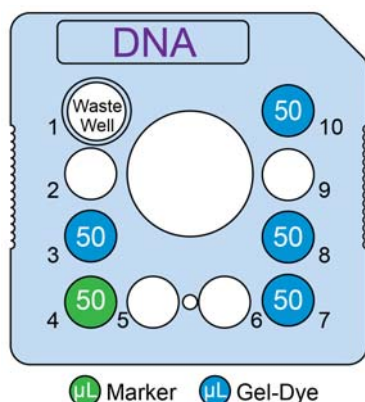
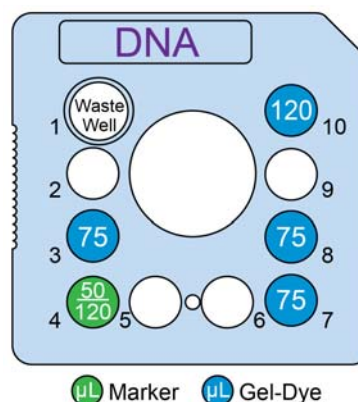

Figure 3. Reagent placement for Low-throughput (up to 48 samples).
Figure 4. Reagent placement for High-throughput (up to 384 samples).
- 5 Using a reverse pipetting technique, add Gel-Dye solution to chip wells 3, 7, 8 and 10 as shown in Figure 3 (Low-throughput) or Figure 4 (High-throughput).
- 6 Add DNA Marker (green cap ●) to chip well 4 as shown in Figure 3 (Low-throughput) or Figure 4 (High-throughput). For the High-throughput chip preparation add 50 µL DNA Marker for 96-well plates and 120 µL DNA Marker for 384-well plates or multiple 96-well plate analysis.